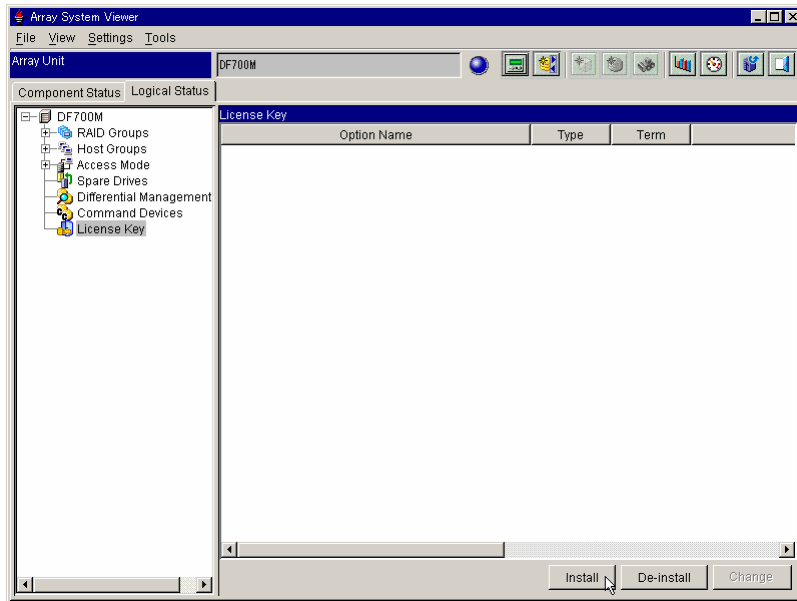

Figure 4.1 Accessing the License Key Window
2. The Array System Viewer displays. Click the **Logical Status** tab, then click the **License Key** icon to display the License Key window (see Figure 4.1).